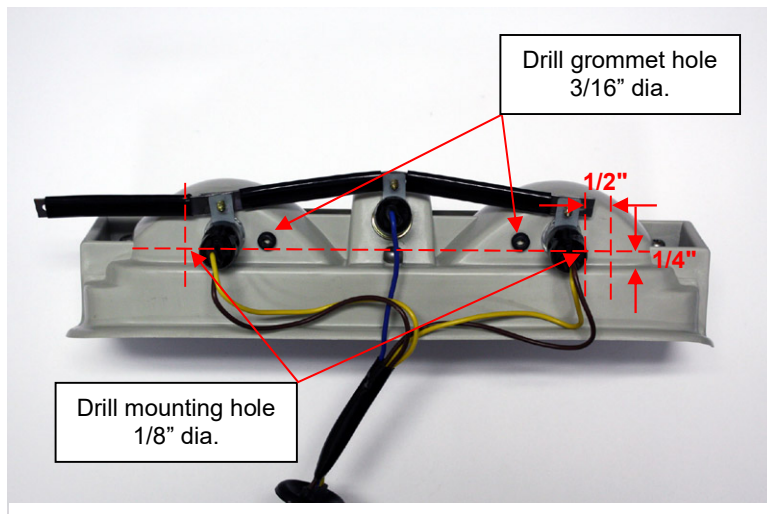

Figure 1
2. Drill 2 – 1/8" diameter mounting holes into each side of both housing assemblies. The holes are located 1/4" away from the back face edge and 1/2" away from the light socket body towards the outside of each socket. (See Figure 1)
3. OPTIONAL: If sequential patterns are desired, drill 2 – 3/16" diameter holes in the center of the flat surface towards the inboard side of the bulb sockets and deburr hole. The exact location of this hole is not critical. Then install provided rubber grommet into the drilled hole. One method to simplify installation is to pinch grommet, insert protruding edge into the hole, then use a small flat blade screwdriver to push/work the remaining edge through the hole. (See Figure 1)